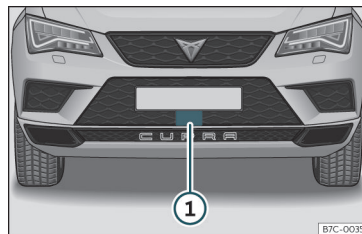

Fig. 211 On the front bumper: radar sensor.
With the vehicle stationary, switch off the engine and start it up again. Check the radar sensor visually >>> Fig. 211 ⓘ (for dirt, ice or knocks). If it is still unavailable, refer to a specialised workshop to have the system inspected.
>>> **Fig. 211 ①.**
This message will be displayed to the driver if the radar sensor's vision is impaired due, for example, to leaves, snow, heavy fog or dirt. Clean the sensor >>> **Fig. 211.**